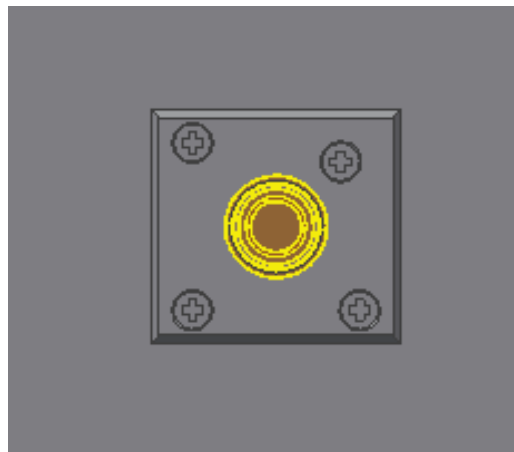

Fig.1 Illuminated push Button
1. Identify the button as per fig. 1 mounted near to the door, inside and outside of passenger cabin. The light should be illuminating around the button.